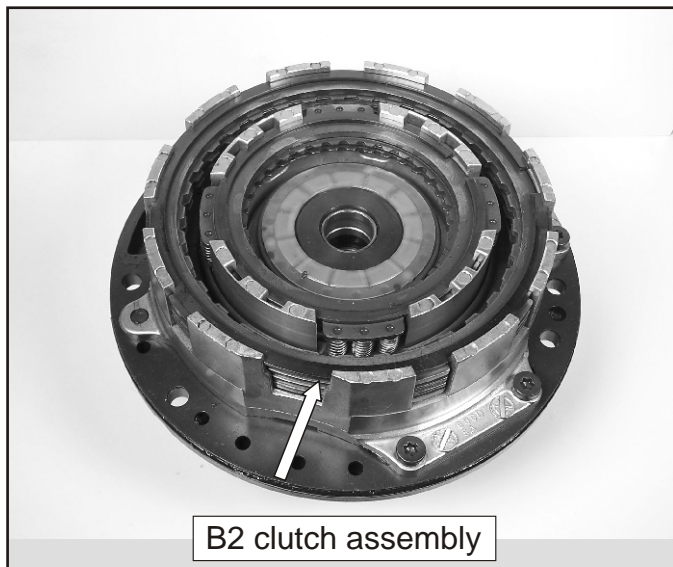

Figure 98
47. Remove the snap ring and B2 clutch assembly as shown in Figure 98.